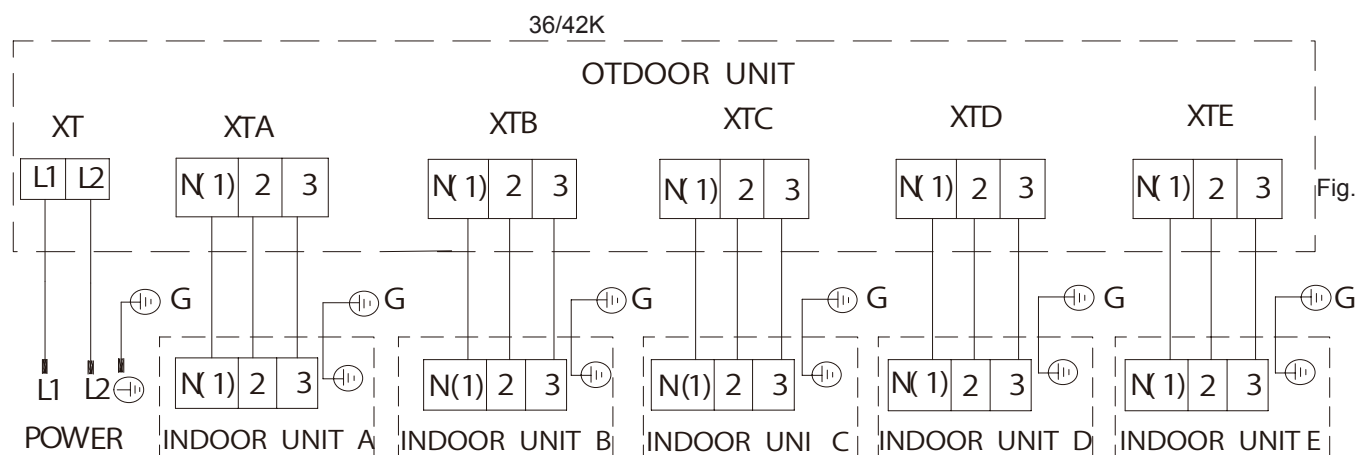

Fig.10
- As shown in the following figure (Fig.10), expel the gas inside the indoor unit and refrigerant pipe out by the vacuum pump.